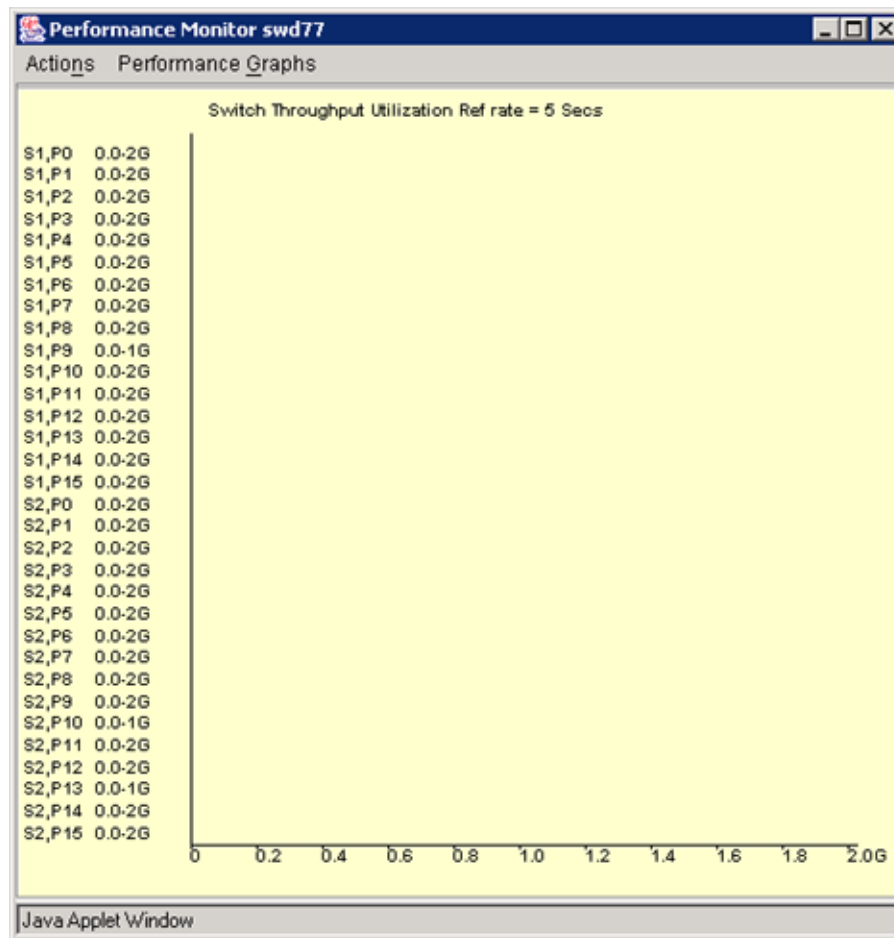

Figure 2-2 Performance Monitor Window
3. In the Switch View click the **Perf** icon. The Performance Monitor window is displayed as shown in Figure 2-2.